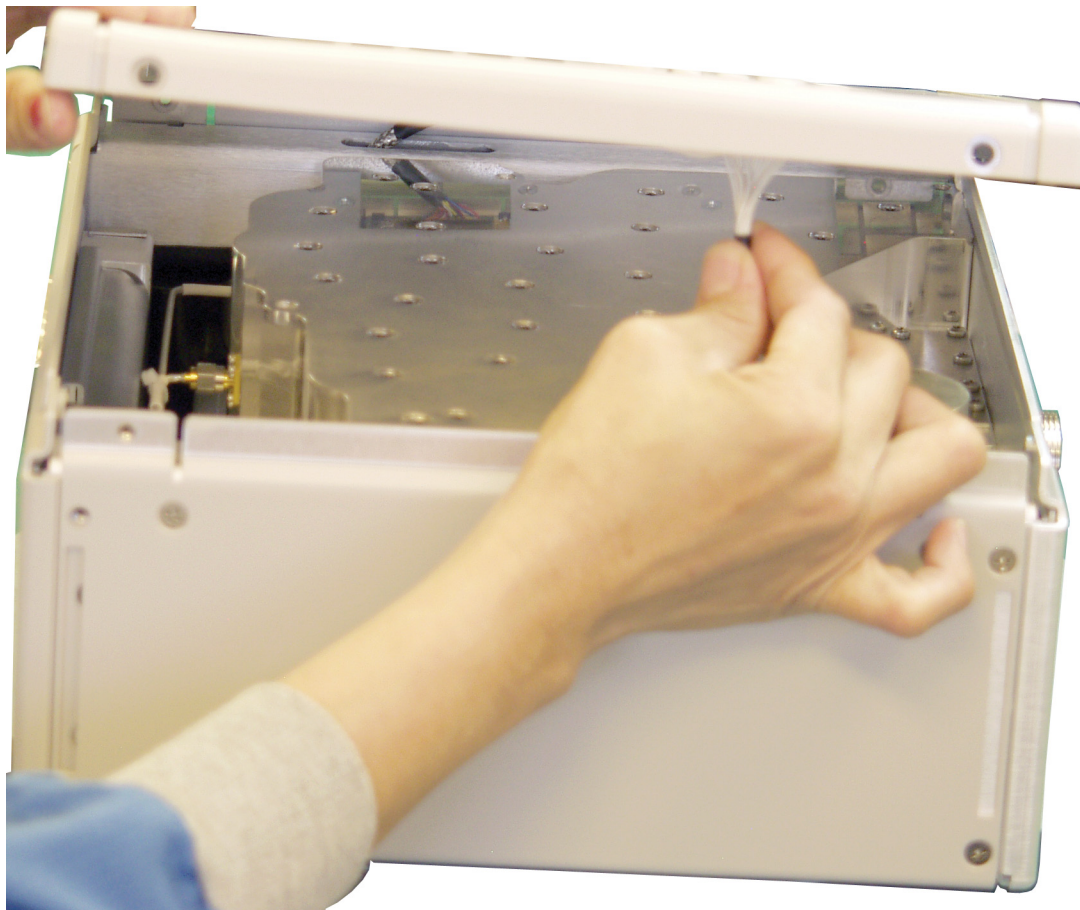

Figure 5-21. Keypad Cable Connector
8. Carefully raise the right (keypad side) edge of the front panel and disconnect the Keypad Cable from the connector under the front panel by pressing on the release tab of the cable connector to release it from the front panel (Figure 5-21). Note that the hand in the figure is holding the cable for identification purposes. .